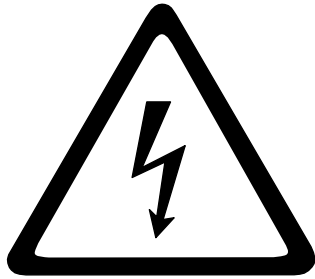

Figure 1. Dangerous voltage symbol
- Figure 1. Dangerous voltage symbol **12**